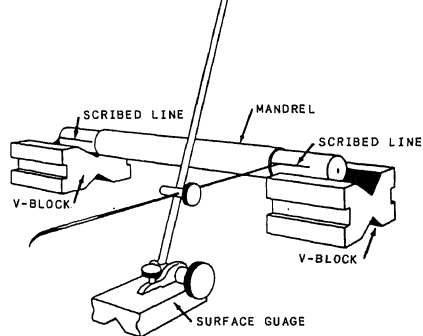

Figure 11-67.—Layout of the work.
2. Place the work on a pair of V-blocks, as shown in figure 11-67.
3. Set the scriber point of the surface gauge to the center height of the work. Scribe horizontal lines on both ends of the work, as illustrated in figure 11-67.